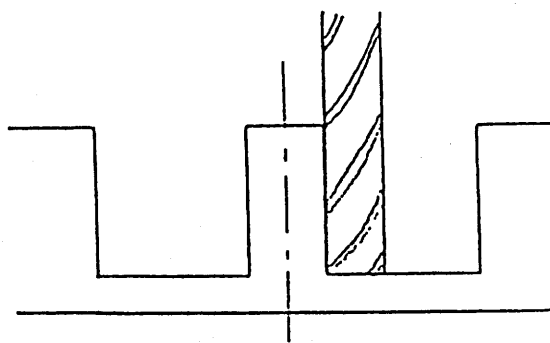

Fig. 7.2 : J-**
- (b) When the radius of the semi-finished hole (J) is ⊖, the tool doesn't return to the X-axis center in the machining cycle. (Fig. 7.2)